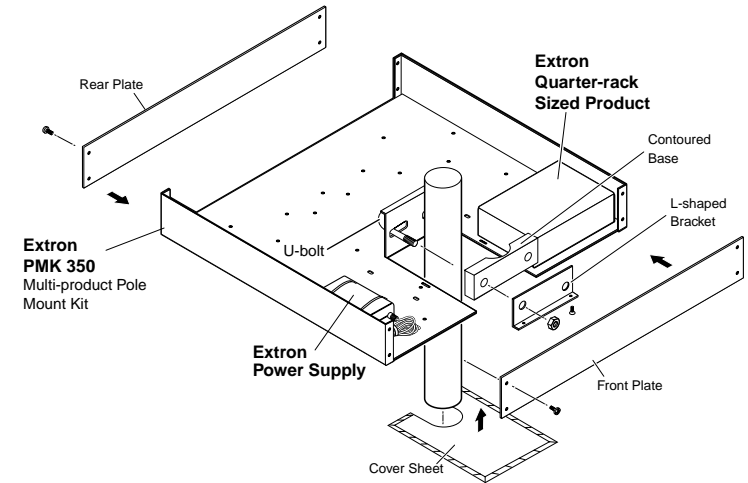

Figure 2-7 — PMK 350 projector mounting a receiver
- Remove the front and rear plates from the PMK 350 (figure 2-7), using an Extron Tweezer or a #2 Philips screwdriver. Retain the screws to reattach the plates when you are finished.
- Place the PMK 350 around the projector ceiling mounting pole (figure 2-7).